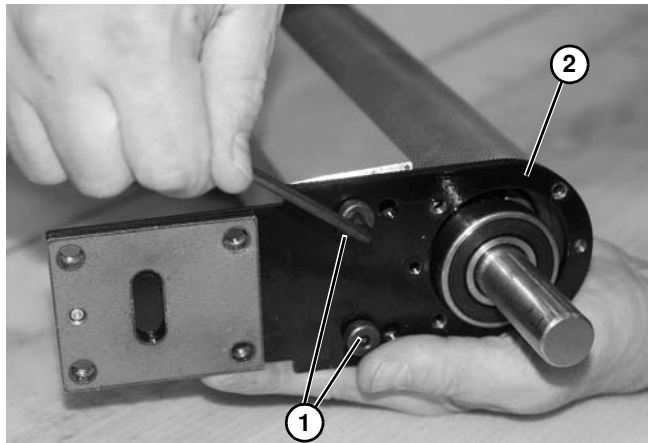

Figure 125
13. Remove shoulder screws (**Figure 125, item 1**) securing backing plate (**Figure 125, item 2**).